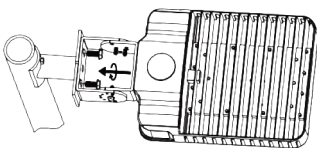

FIG.11
- Tighten the fixture to the tenon pole or tenon adapter by two M12 bolts (see FIG.11).